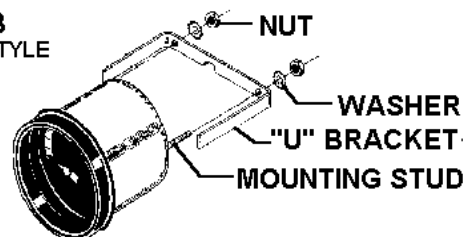

FIG.2A
1. Refer to Figure 2A through 2C and determine which style gauge you have. If you have the style shown in Fig. 2A, run a wire from "G" terminal of Gauge to "IGN" terminal of ignition switch.
4. Refer to Figure 3. Wiring shown will cause Gauge pointer (for types shown in Figures 2A and 2B) to move in direction of faster engine. Type shown in Figure 2C will move towards slower engine. If desired, this may be changed by reversing connections at Module.